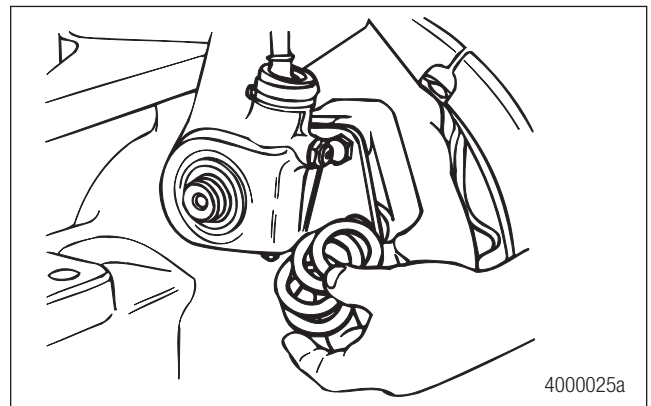

Figure 4.15
2. Remove the slack adjuster shims at the adjuster end of the camshaft. Figure 4.15.